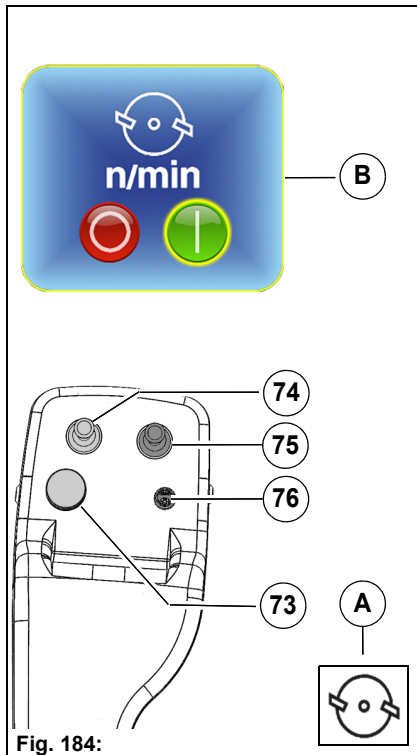

Fig. 184:
1. Switch on the work mode with the Hako button **Fig. 184-76**. The accelerator pedals must be in the neutral position. The mower information symbol **Fig. 184-A** appears in the multifunctional display.
2. Use the turn-push knob **Fig. 184-73** in the working menu of the multifunctional display to switch on the mower **Fig. 184-B** and to set relief (optional).